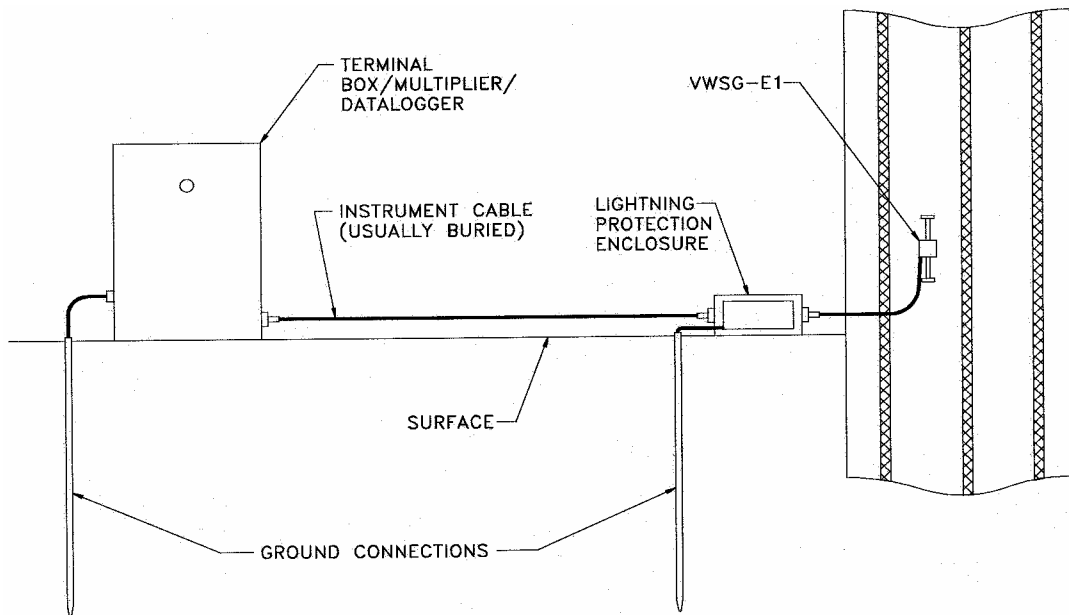

Figure 5 – Lightning Protection Scheme
- Lightning arrestor boards and enclosures are available from RST that install at the exit point of the instrument cable from the structure being monitored. The enclosure has a removable top so, in the event that the protection board is damaged, the user may service the components (or replace the board). A connection is made between this enclosure and earth ground to facilitate the passing of transients away from the gauge. See Figure 5. Consult the factory for additional information on these or alternate lightning protection schemes.